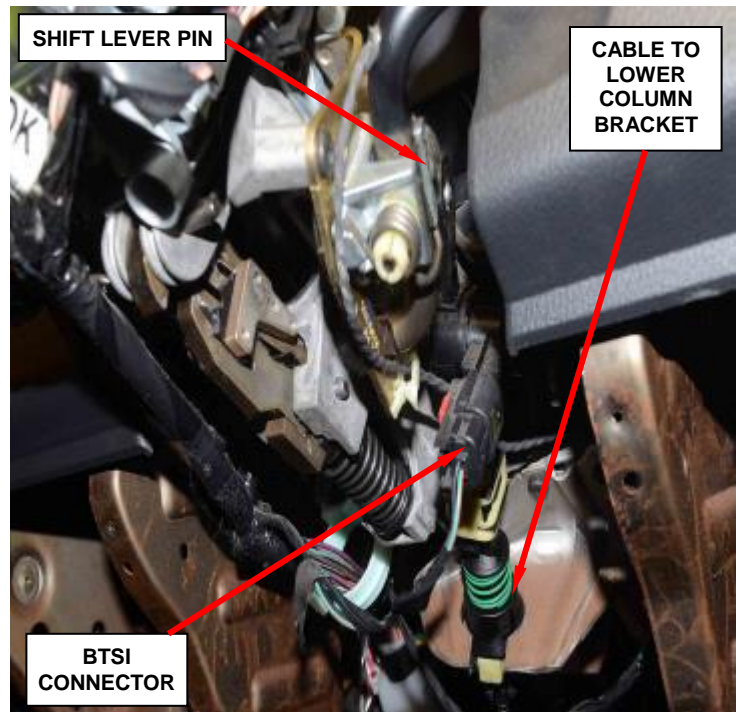

Figure 90 – Gear Shift Cable
13. Disconnect the gearshift cable from the column (Figure 90).